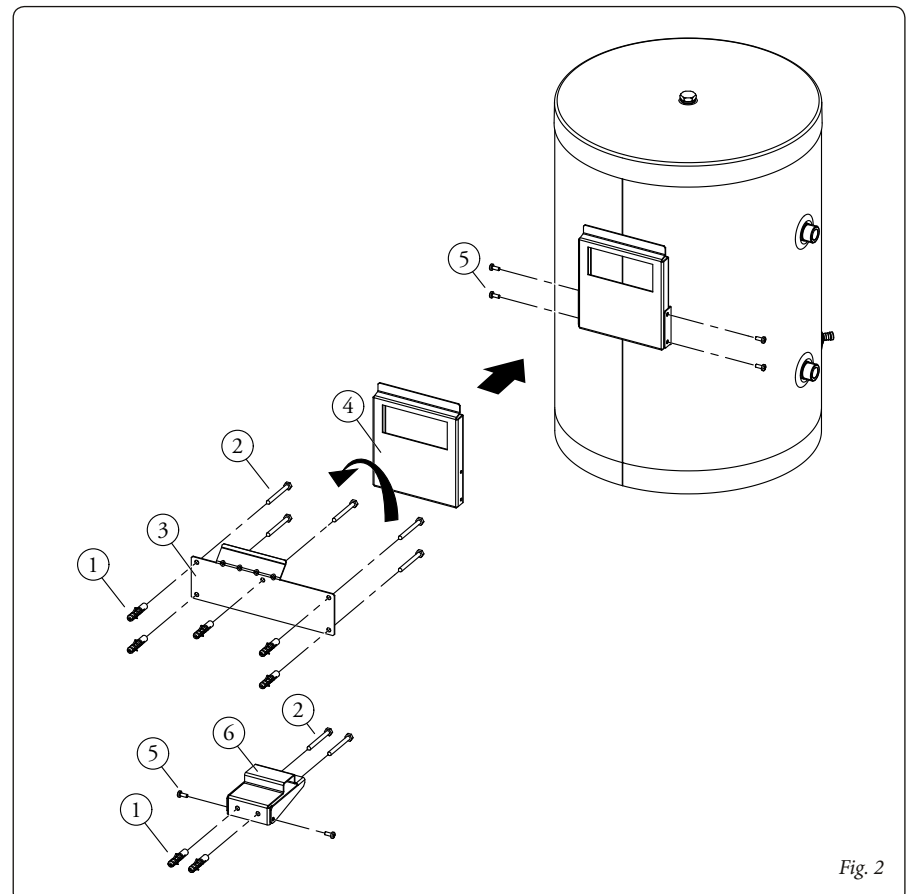

Fig. 2
INSTALLATION (FIG. 2 - 3 - 4):
- Fasten the mount (3) at the height desired on the wall inserting the screws in the specific holes prepared for the screws (2) and the dowels (1) inside the kit (Fig. 2).
- Fasten the frame (4) on the prepared seat on the boiler using the screws (5) inside the kit (Fig. 2).